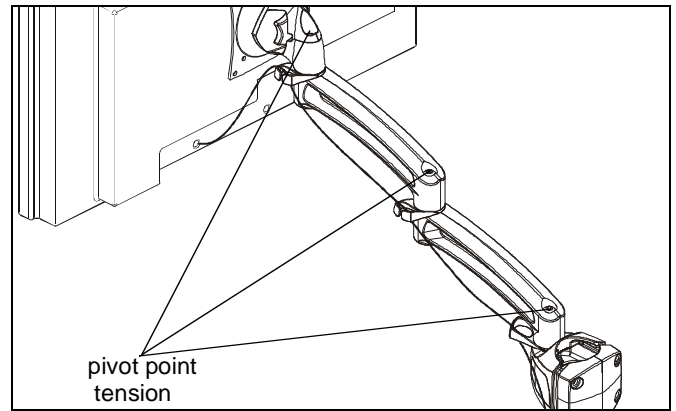

Figure 4
1. Adjust pivot position as desired. (See Figure 4)
2. Adjust pivot point tension screws to change pivot adjustment tension. (See Figure 4)